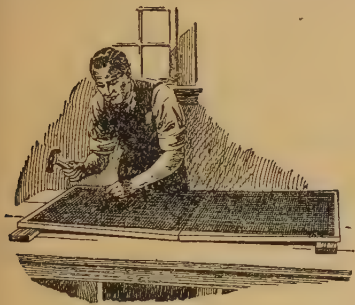

FIG. 7. One method of placing two screens together in order to stretch the wire.
2. Place two frames together on the table or the floor with their outer ends elevated about 1 in. on blocks as shown in Fig. 7. The netting is cut long enough to cover both frames and tacked at the outer or elevated ends. The blocks then are removed, the frames pressed down flat, and the tacking finished. This insures that the wire will be stretched evenly and allows free use of both hands for tacking.